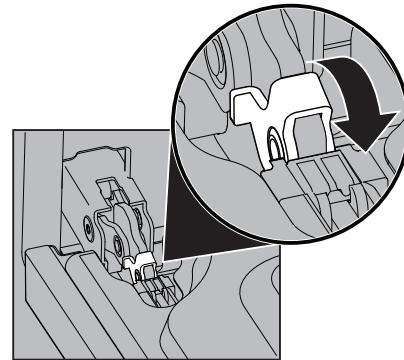

Figure 16: Door hinge lock
2. Pull up the lock located on each hinge support toward front of the oven until the lock stops. You may have to apply a little upward pressure on the lock to pull it up (Figure 16).
4. Push the door hinge locks up toward and into the oven frame on both left and right oven door hinges to the locked position (Figure 16).